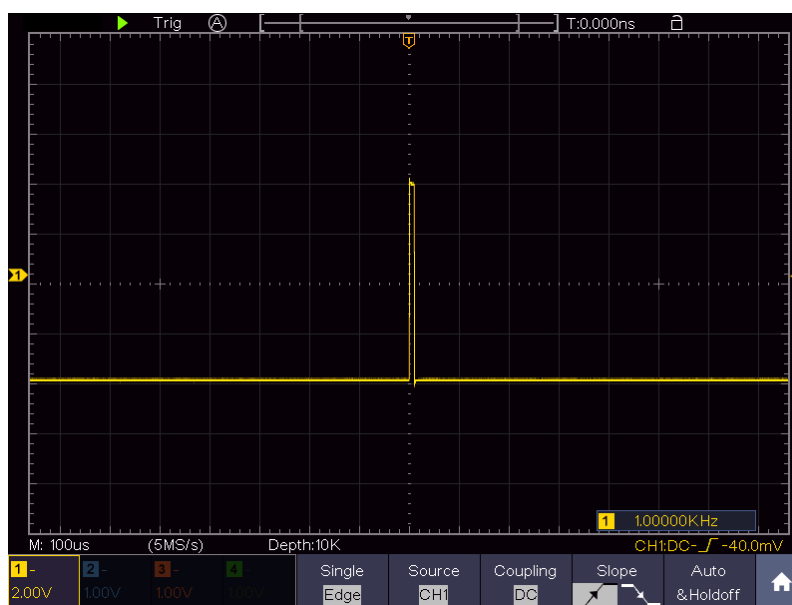

Figure 6-3 Capturing a Single Signal
- (4) Select **Acqu Mode** in the bottom menu. Select **Peak Detect** in the right menu.
- (5) Click  to call up the menu panel. Click the **Trig Menu** softkey on panel to display the Trigger menu.
- (6) Select the first menu item in the bottom menu. Select **Single** in the right menu.
- (7) In the left menu, select **Edge** as the mode.
- (8) Select **Source** in the bottom menu. Select **CH1** in the right menu.
- (9) Select **Coupling** in the bottom menu. Select **DC** in the right menu.
- (10) In the bottom menu, select **Slope** as  (rising).
- (11) Turn the upper knob and adjust the trigger level to the roughly 50% of the signal to be measured.
- (12) Check the Trigger State Indicator on the top of the screen, if it is not Ready, push down the **Run/Stop** button and start acquiring, wait for trigger to happen. If a signal reaches to the set trigger level, one sampling will be made and then displayed in the screen. By using this approach, a random pulse can be captured easily. For instance, if we want to find a burst burr of high amplitude, set the trigger level to a slightly higher value of the average signal level, push the **Run/Stop** button and wait a trigger. Once there is a burr occurring, the instrument will trigger automatically and record the waveform during the period around the trigger time. When the **HOR** button is lit, by turning the upper knob on the front panel, you can change the horizontal triggering position to obtain the negative delay, making an easy observation of the waveform before the burr occurs (see *Figure 6-3*).